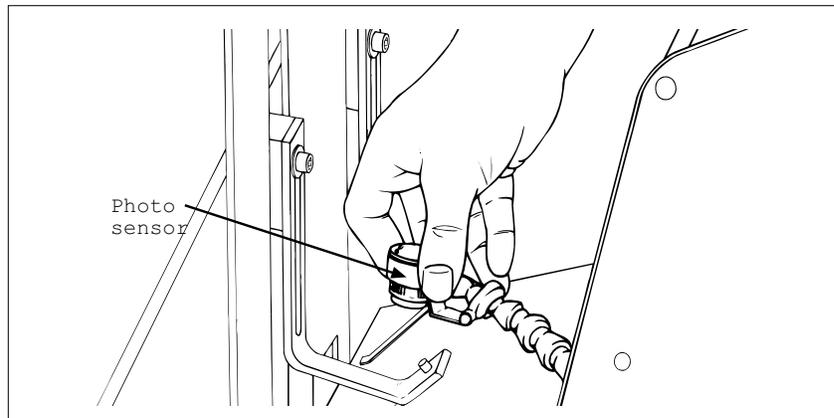

Figure 2-17. Initial Photo Sensor Adjustment
2. Next, adjust the sensor so it points exactly at the leading edge of material being held by the hold-down springs (Figure 2-17). *Use the flexible extension arm to maneuver the photo sensor into position for desired height and angle.*